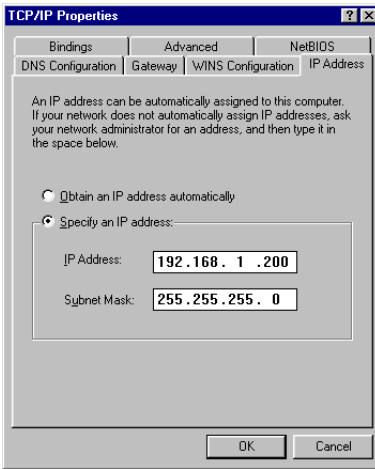

Figure 3-2 TCP/IP Properties Window
3. Highlight the “TCP/IP” item in the list, and click on the “Properties” button. The TCP/IP Properties Window will open (Figure 3-2). Select the IP Address tab.